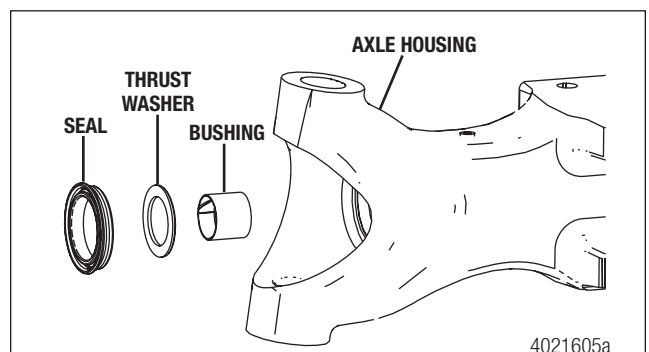
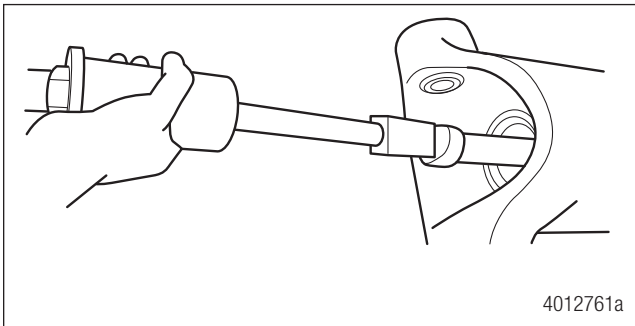

Figure 8.4
Figure 8.5
6. Inspect the thrust washer in the axle housing for wear or damage and replace if necessary. Figure 8.4.
7. Inspect the bushing in the axle housing for wear or damage and replace if necessary. If the bushing requires replacement, first remove the axle shaft seal and thrust washer. Then, use a slide hammer to remove the bushing. Discard the seal, thrust washer and bushing, and replace with new during reassembly. Figure 8.4 and Figure 8.5.